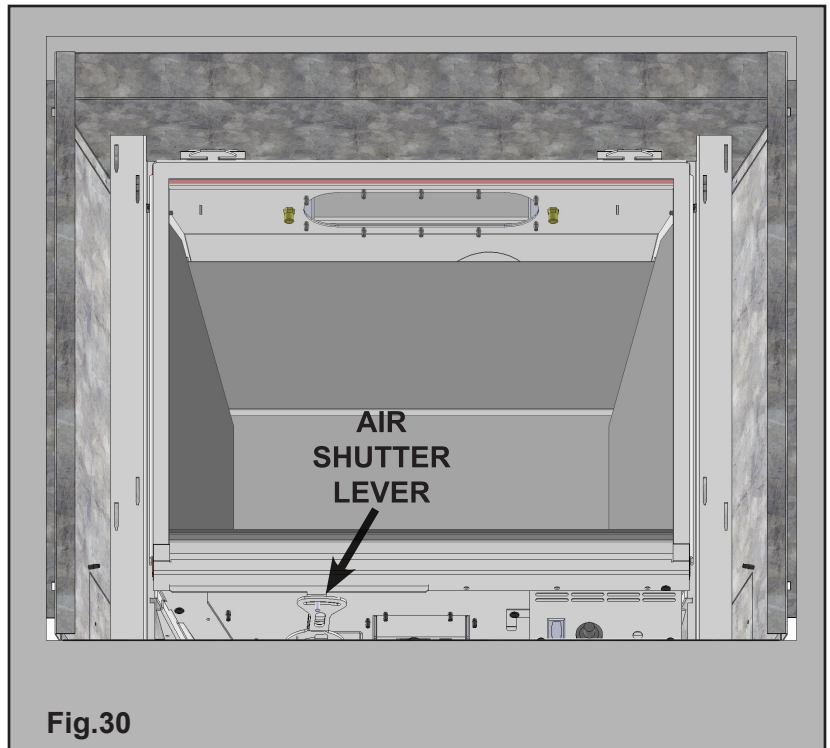

Fig.30
1. Remove the face trim to access the air shutter adjustment lever, it is in the lower left-hand side. (Fig.30)